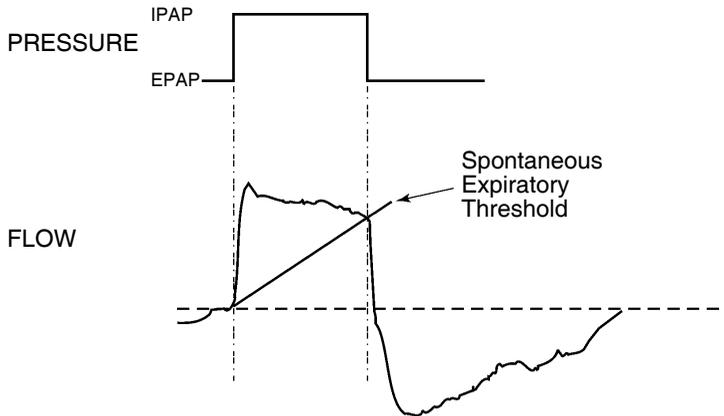

Figure 18: Spontaneous Expiratory Threshold
- The spontaneous expiratory threshold (SET) algorithm (Figure 18) raises the threshold in proportion to the inspiratory flow rate for each breath. When the SET and actual patient flow value are equal, the system cycles to EPAP.